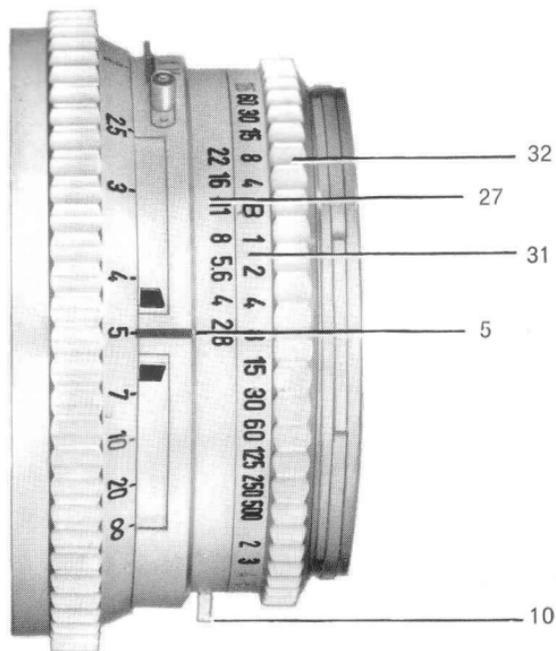

Fig. 24
The movable depth-of-field indicators show the exact field of focus and, at the same time, the distance from camera to subject can be read opposite the central index (5) (see fig 24). The depth-of-field indicators consist of two parallel movable pointers. The position of these pointers relative to the distance scale is reset when the aperture is changed. As you know, every change of shutter speed results in a corresponding change in the aperture since these two factors are automatically connected. Changes in the EVS setting due to changed lighting conditions also affect the aperture. Finally, the diaphragm can be disconnected from the exposure value setting which will also affect the position of the depth-of-field indicators. However, when the distance setting is changed, the pointers remain in the same position. The picture shows how the largest aperture (f/2.8) results in the smallest depth of field. This is equal to the distance between the two pointers. The smallest aperture (f/22) gives the maximum depth of field. A practical method of localizing a predetermined depth of field is to focus first on the nearest part of the object and read off the corresponding value